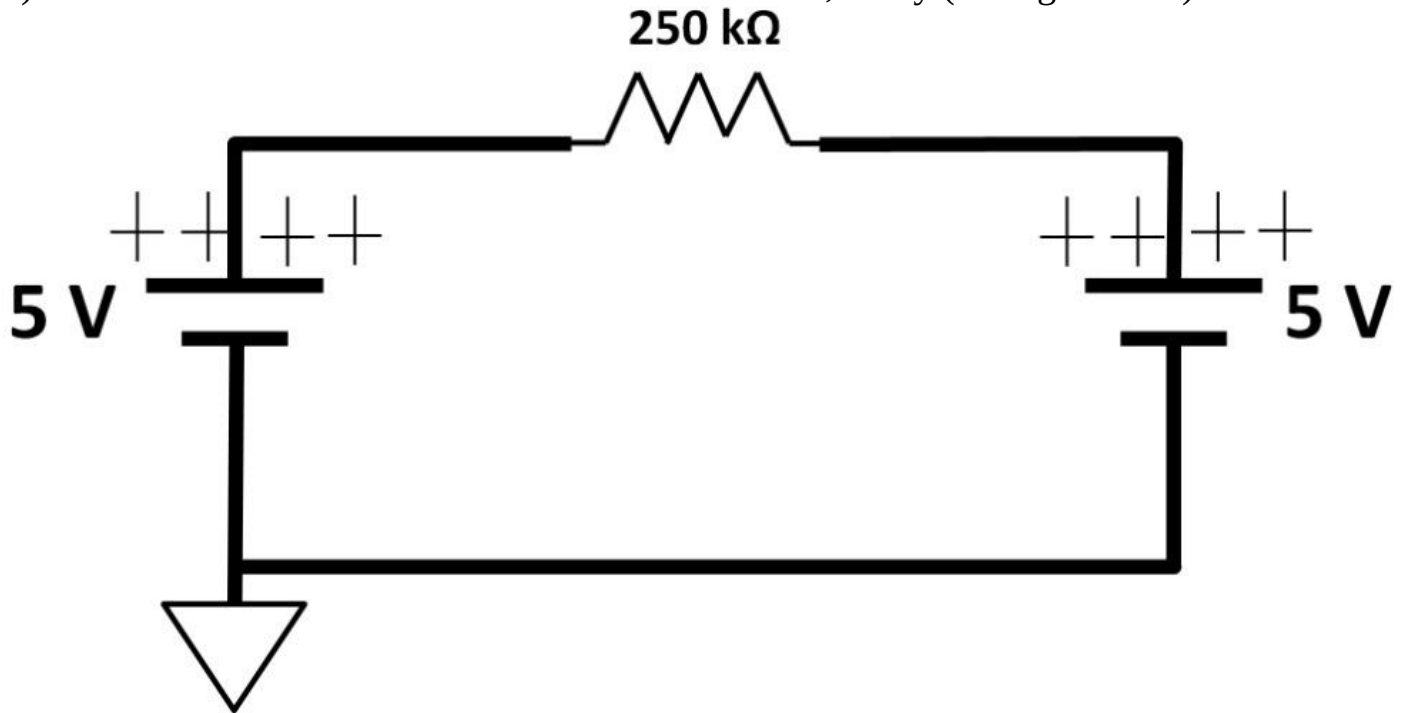

Figure 1.38: Current flow
1) Show current flow direction and amount of current, if any (see figure 1.38).
4) Using figure 1.38, if the 5 V on the left is replaced with 10 V, what is the current flow direction? What is the amount of current, if any?